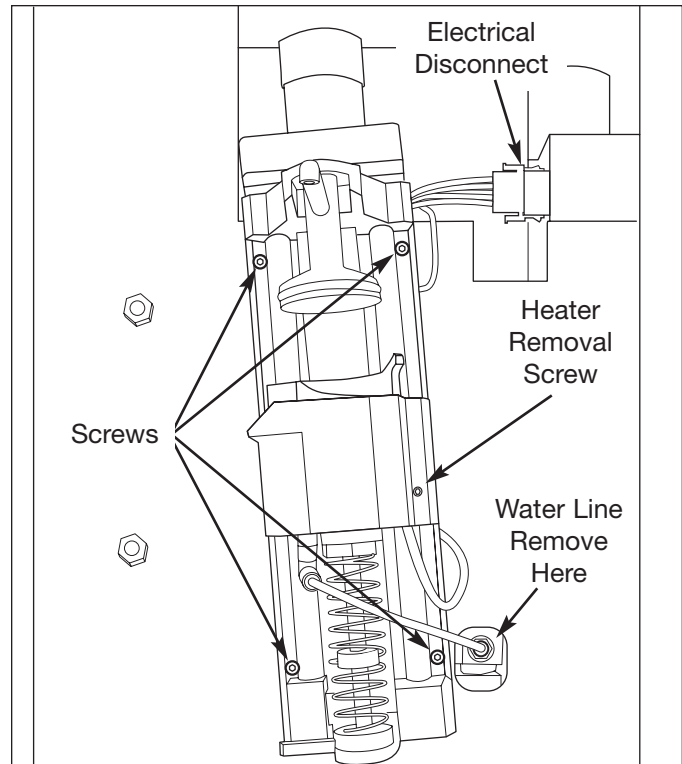
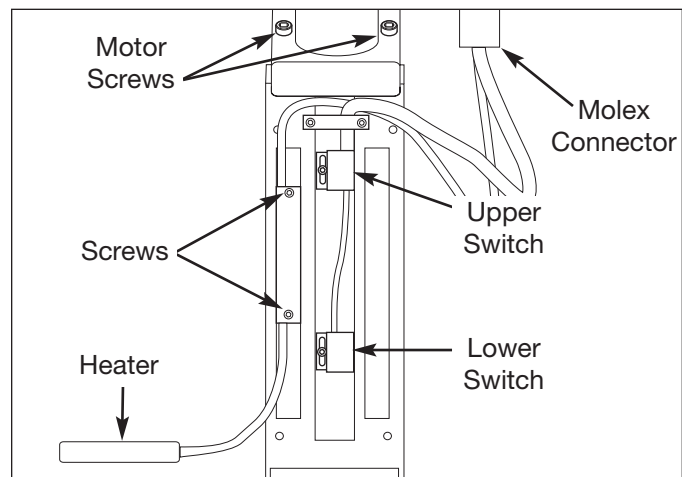

Figure 4-37. Brewing Assembly Removal
Figure 4-38. Expulsion Tablet Shovel Removal
To remove the brewing assembly (See Figure 4-37):
8. Extract the two screws securing the motor group mechanism to the top of the brewing assembly, then lift the motor group mechanism from the brewing assembly. (See Figure 4-38) Turn the brewing assembly rod clockwise for the brewer to rise up until it is in the upper most position. Use a volt meter and check continuity between the two leads. To check the lower switch, simply twist the brewing assembly rod counter clockwise until it reaches the lowest position. Then check continuity between the two leads. If a switch needs to be replaced, remove the leads by using a molex pin removal tool.
9. To remove the heater, start by taking out the screw holding it into place. (See Figure 4-37) Then take out these two screws holding the wiring into place. (See Figure 4-38) Then take a molex pin removal tool and remove the two green leads.